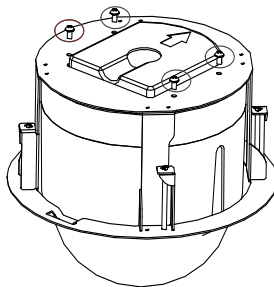

Figure 2-15 Remove the Screws
- 1). Loosen and remove the four screws as shown in Figure 2-15.